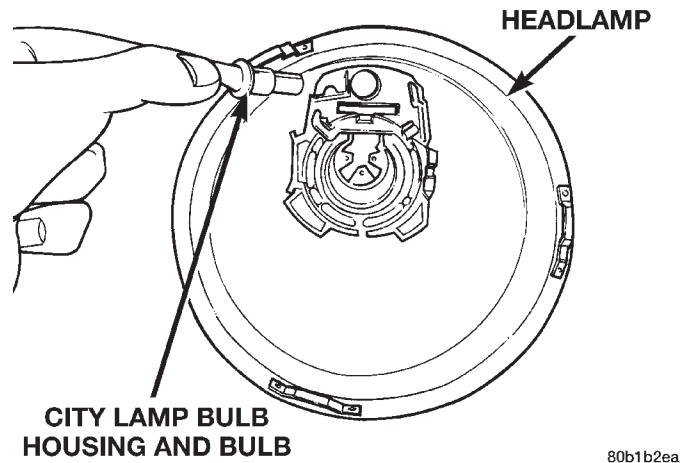

Fig. 6 Citylight Lamp Bulb Housing
- (1) Remove the headlamp from the vehicle. Refer to the headlamp Removal/Installation procedure located in this group.
- (2) Remove rubber seal boot.
- (3) Remove citylight lamp bulb housing from the headlamp (Fig. 6).
- (4) Remove citylight bulb from housing.